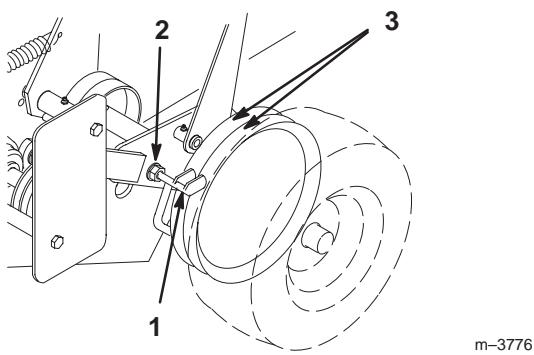

Figure 55
1. Loosen the locknut holding scraper to the engine frame (Fig. 55).
2. Rotate scraper until they align with center of pulley grooves (Fig. 55).
3. Tighten the locknut (Fig. 55).